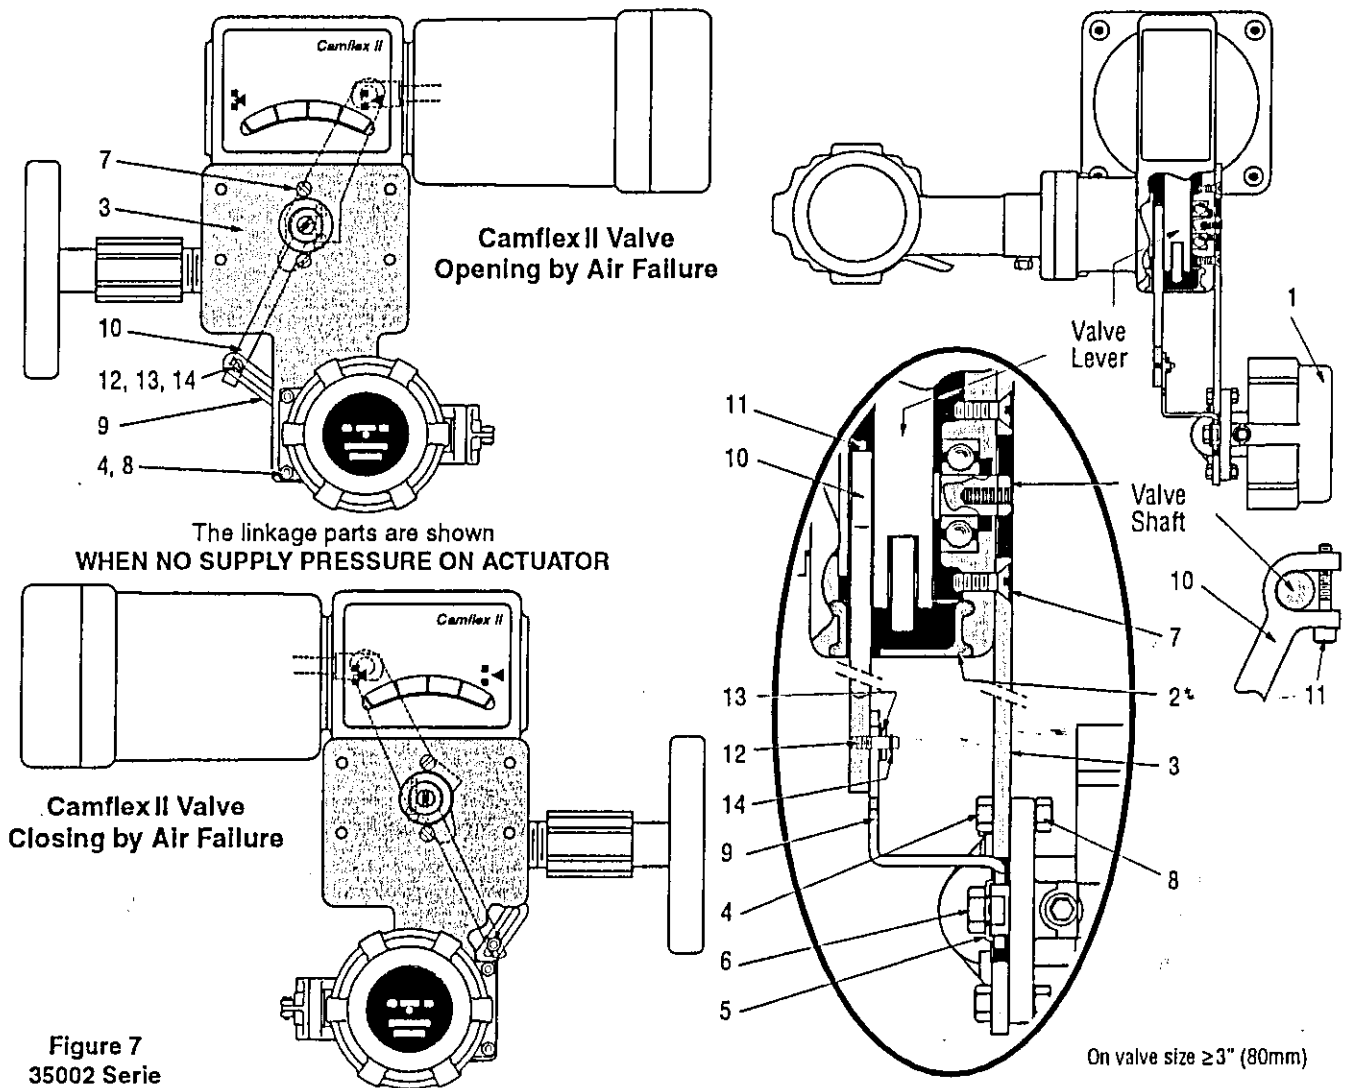

Figure 7
The coupling of the detector shaft to the valve is made by means of a back lever and a motion linkage proper to each valve configuration. The back lever is fastened to the arm shaft (11) with a washer and a hex. head screw. Figures 7 to 10 show installation details on the various valves.
On 35002 Series Camflex II Valves (Figure 7):